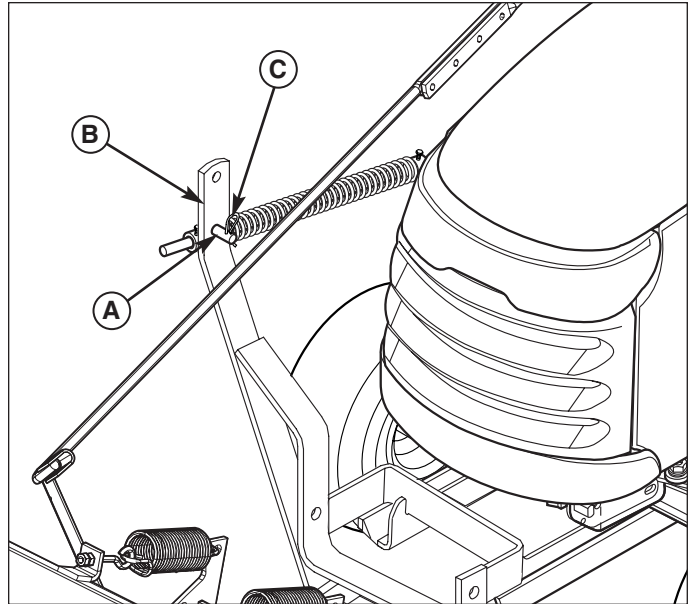

Figure 11. Lift Rod Assembly
1. Insert the end of the rod guide (A, Figure 11) through hole in upright of lift arm (B), and secure with spring clip (C).
NOTE: The rod guide (A, Figure 11) should be installed in the lower hole for hydraulic lift applications. For manual lift applications, the rod guide may be installed in either hole. The upper hole provides reduced lift effort; the lower hole provides increased lift height.